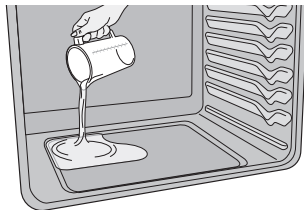

Figure 12: Add 1 cup of tap water
3. Pour 1 cup of tap water onto the oven bottom. (Figure 12) Close oven door.